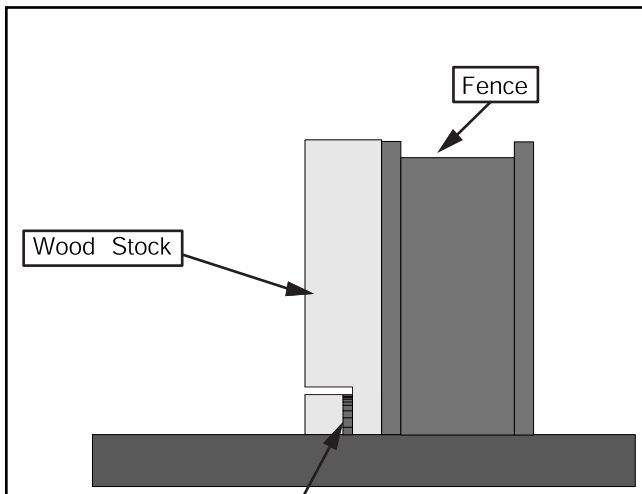

Figure 57. Rabbit cutting.
Commonly used in furniture joinery, a dado is a straight channel cut in the face of the workpiece. Dadoes can be cut using either a dado blade (Figure 57) or a standard saw blade.
7. Rotate the workpiece as shown in **Figure 57**.